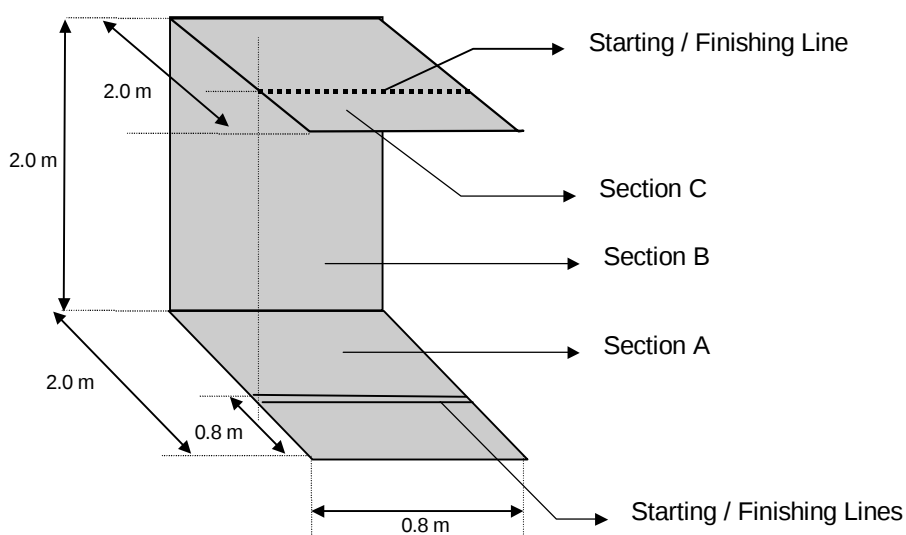

Figure 1: The wall for the wall-climbing robot race
- 2.1 The wall is shown in Figure 1 below. It consists of three sections: a 2 metre long horizontal section (section A) on the ground followed by a 2 metre high vertical section (section B) followed by a 2 metre long horizontal section (section C) at the top, with each section at least 0.8 metres wide (the organiser reserves the right to provide wall sections that are wider than 0.8 m).
- 2.4 The supporting structure for the wall will have provision for two safety cables to be attached to the robot so that both cables can be used simultaneously during the race (*not* shown in Figure 1.)
The wall will be deemed to have satisfied criteria (a) and (b) above and be considered fit for use if each of the two distances between diagonally opposite corners (using the side view in Figure 1) lies in the range 2733 mm to 2847 mm.